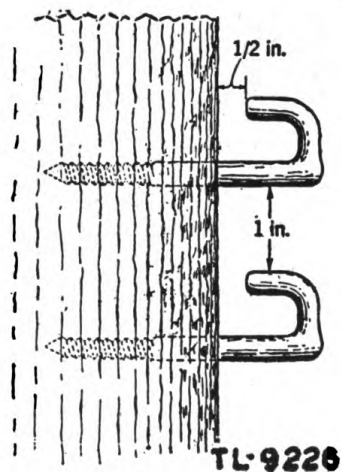

Figure 31. Drive hooks installed on pole.
q. INSTALLING DRIVE HOOKS. (1) In placing more than one drive hook on one side of a pole, stagger the drive hooks at least 1/2 inch to avoid splitting the pole.
(2) Figure 31 shows drive hooks installed on pole.